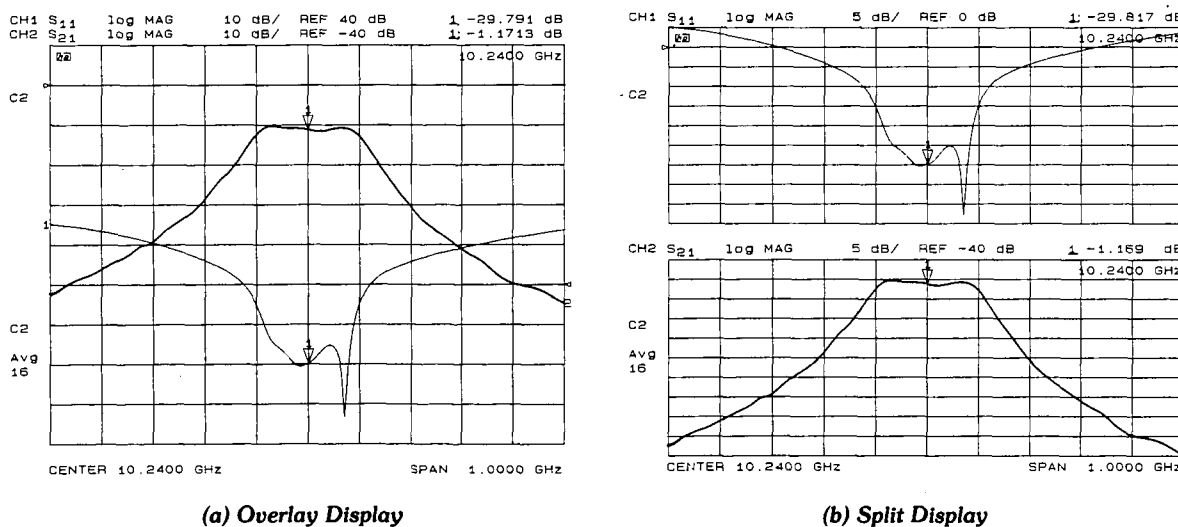

Figure 4-24. Dual Channel Displays
**[SPLIT DISP on OFF]** (SPLDON, SPLDOFF) toggles between a full-screen single graticule display of one or both channels, and a split display with two half-screen graticules one above the other. Both displays are illustrated in Figure 4-24. The split display can be used in conjunction with **[DUAL CHAN ON]** in the display menu to show the measured data of each channel simultaneously on separate graticules. In addition, the stimulus functions of the two channels can be controlled independently using **[COUPLED CH ON]** in the stimulus menu. The markers can also be controlled independently for each channel using **[MARKERS: UNCOUPLED]** in the marker mode menu.